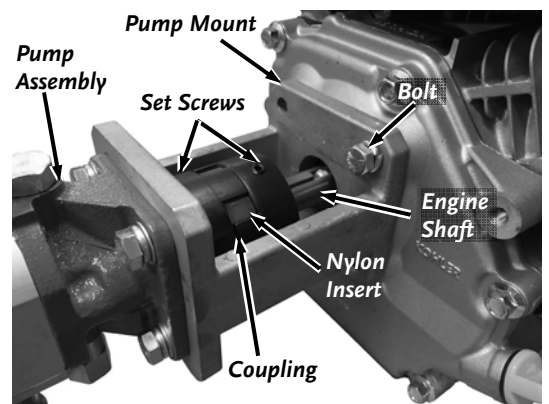

Figure 13
5. Position the Pump Assembly, with the opening facing up, onto the Engine Shaft so that the key slides into the Coupling (Figure 13). Push the Pump Assembly onto the shaft until the Pump Mount is flush with the Engine. Temporarily install a 5/16-24 Bolt to hold the Pump against the Engine.